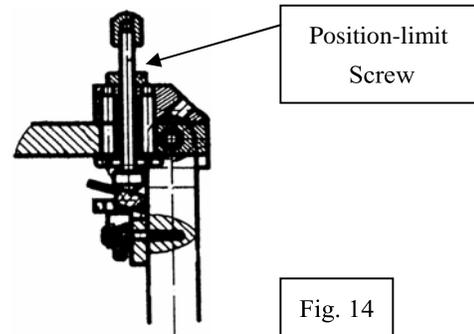

Fig. 14
6.1.3. Adjustment for position-limit switch: See Fig. 14. Turn up or down the position-limit screw to ensure the blade will not cut clamp.